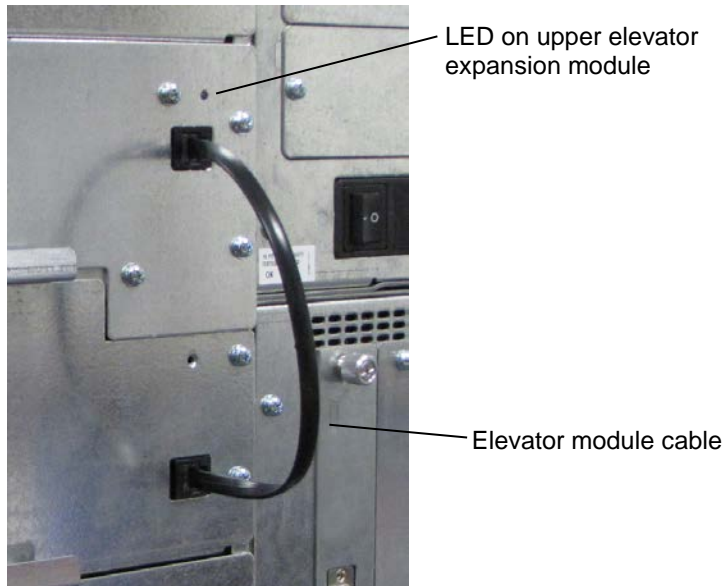

Figure 7-29 The Elevator Module Cable and LED on Upper Module
3. Remove the black elevator module cable that is attached between the libraries. See Figure 7-29.
4. Take the black elevator module cable and plug it into the connectors on the upper and lower elevator modules as shown in Figure 7-29. Note that the cable provides both power and data transfer and can only be acquired from Qualstar. If a new cable is required please contact technical support and request P/N 667-0601-1.